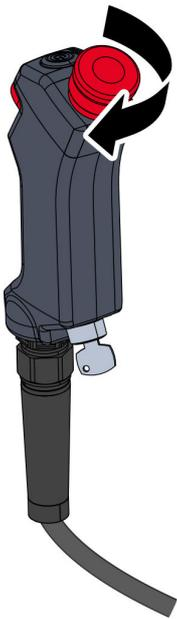

Fig. 70 Unlocking an emergency stop button
02. Unlock the emergency stop button by turning it clockwise (Fig. 70).